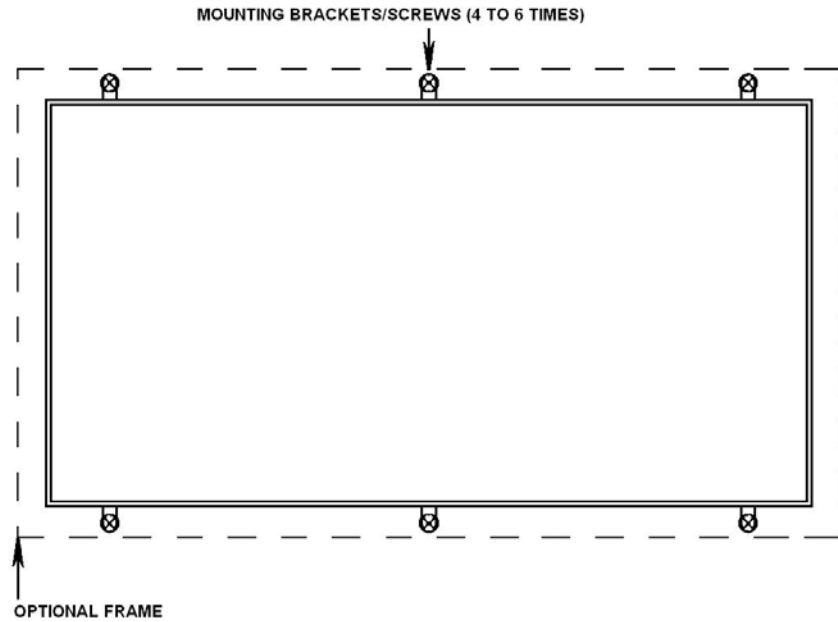

Figure II-1, ceiling surface mount
- 4) The CH4824 comes with six mounting clips, the CH2424 with four. Pre-drill the mounting holes and install wall/ceiling board anchors at the locations where there are no ceiling joists. Lexin requires wall/ceiling anchors that can support at least 25 lbs each to provide a 4 to 6:1 weight to anchor safety factor. The screws should enter the joist by at least 1" (typically No 8 x 1 1/2", or 8 x 1 3/4"). Install at least two screws on one side first, leaving the heads out by about 1/8" so the panel can be "hooked" onto these when it is time to install the heater. Ask a helper to hold the panel while the electrical connections are being made; then install hook the panel onto the first 2 or 3 screws - - this will support the one side while the second side is being mounted. Next, install the screws on the opposite side, when finished, go back to the first screws, and tighten the first two or three screws. Six (6) or four (4) installation brackets are supplied with each heater, more may be ordered if needed. The installation may be framed to hide the mounting hardware. (See figure II-1)
The heaters may be installed permanently by locating 2 or more studs (typically 16" apart); then following the installation instructions for Traditional Ceiling installation, using the mounting brackets and optional frame as outlined above (see figure II-1). UL requires that Lexin heaters are mounted 6' or more above the floor!!